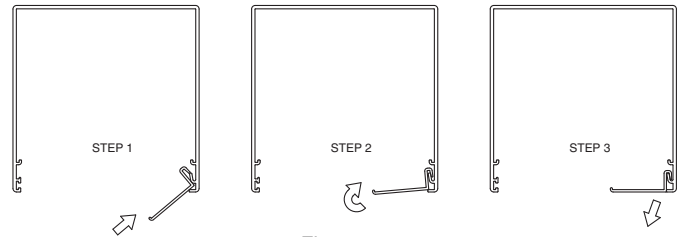

Figure 10
- ① Snap endcap covers onto endcaps.
- ② Place endcaps into back/top portion of wall/ceiling headbox or into pocket extrusion of pocket headbox. Using pre-drilled holes in endcaps, mark the headbox for drilling.
- ③ Drill holes in back or top, depending on whether you will be mounting the headbox to the wall, ceiling or pocket.
- ④ Attach endcaps and wall/ceiling headbox back/top or pocket headbox extrusion to wall, ceiling or pocket using mounting hardware appropriate for site conditions.
- ⑤ Install shade (see "Bead Chain Clutch—Large Endcaps" section above).
- ⑥ Attach headbox fascia or pocket closure (see Fig. 10 for pocket closure).